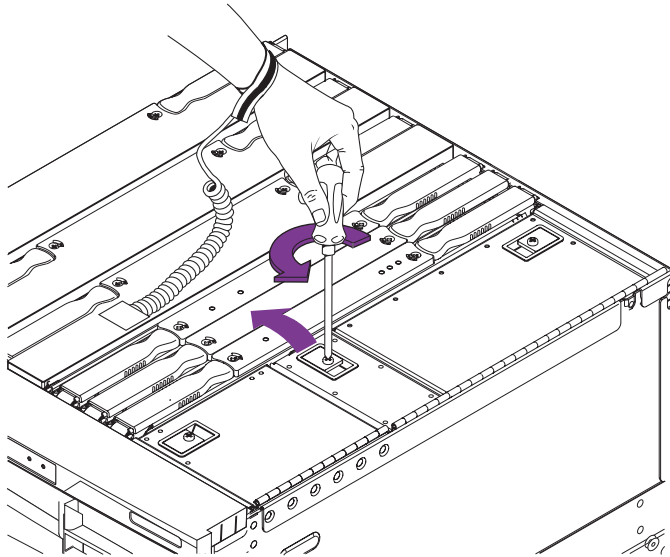

FIGURE 7-9 Opening the IB Fan Cover—System Top View
- b. **Unlatch the cover and open it** (FIGURE 7-9).